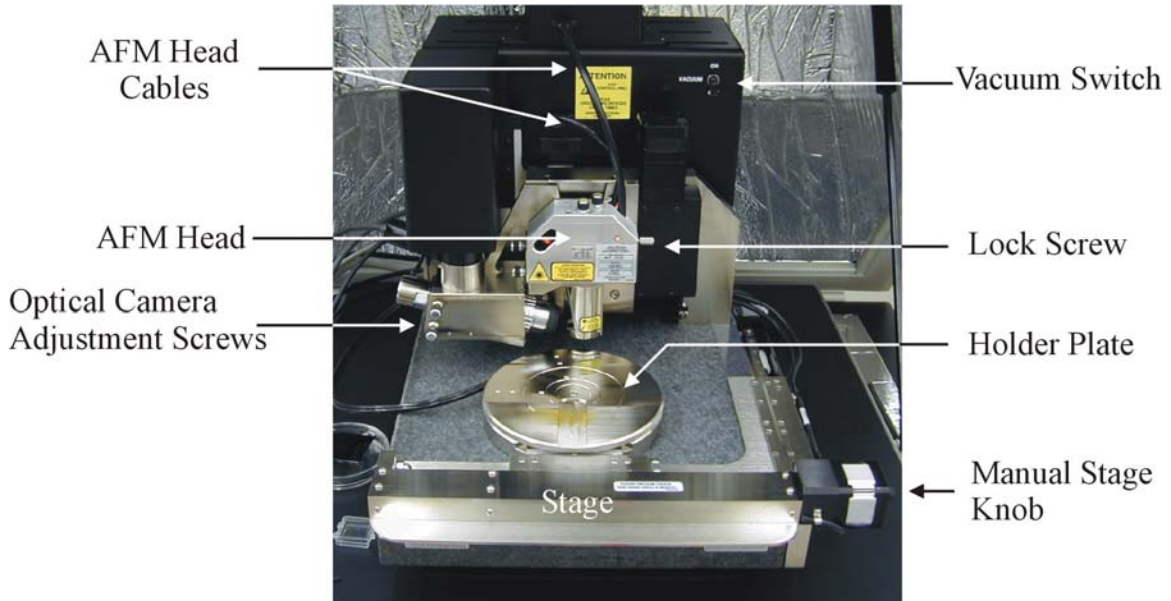

Fig. 1: Overall Instrument View
22. Once the vacuum screws are set, place the substrate on the plate and turn the vacuum on. The vacuum switch is located in the top right corner (see Fig. 1). Make sure that the sample is fixed on the plate.